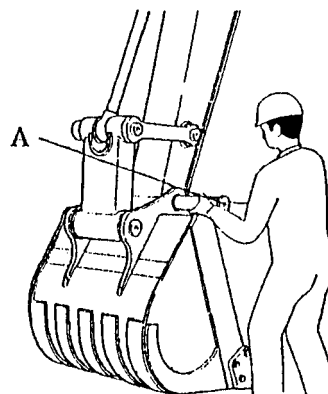
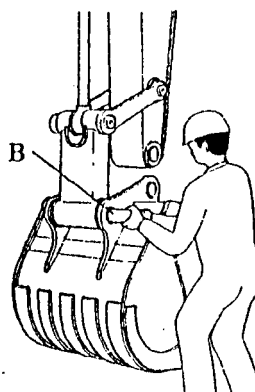

Fig. 8 Remove pin (A)
Fig. 9 Remove pin (B)
- 2) Remove the pin retaining ring and the pin from the bucket boss using a standard screwdriver, and pull out pin (A) (see Fig. 8).
- 3) Operate the control lever so pin (B) between the bucket link and the bucket may not be loaded.
- 4) Remove the pin retaining ring and the pin from the bucket boss using a standard screwdriver, and pull out pin (B) (see Fig. 9).